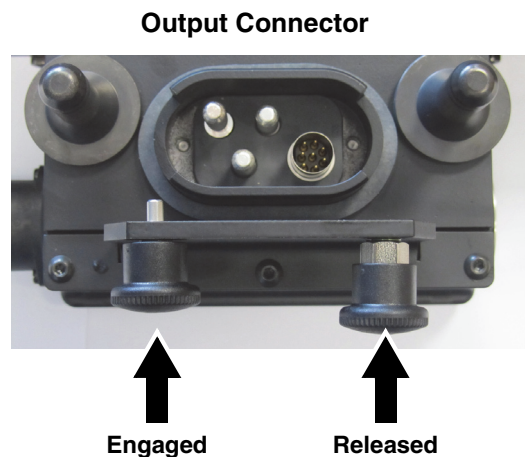

Figure 6: Output Connector locks
7. See Figure 6. Turn both the locks on an EC Series Output Connector fully counter-clockwise to the released position. Press the Output Connector onto the bottom of the panel so that the two guide posts in the top of the Output Connector engage in the holes in the panel. Turn both Output Connector locks fully clockwise until tight. Check that both locks are correctly engaged and that the Connector is securely locked to the panel.